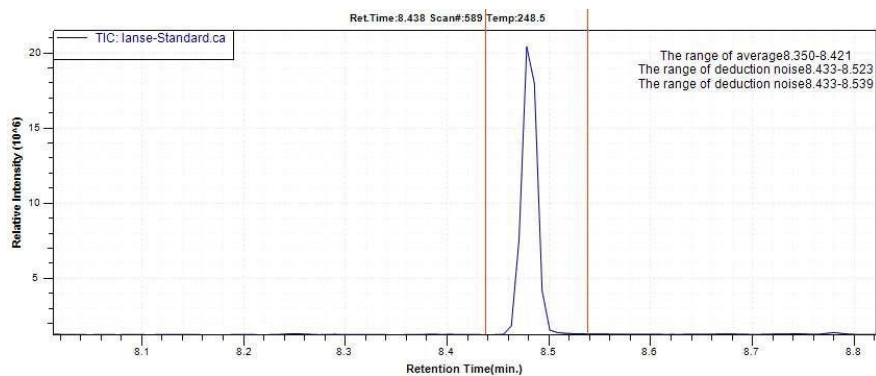

Figure 7-7 Range for Removing Background
- (4) Click the  icon on the toolbar, press and hold the left mouse button to select the range of the chromatographic peak for removing background, as shown in Figure 7-7.